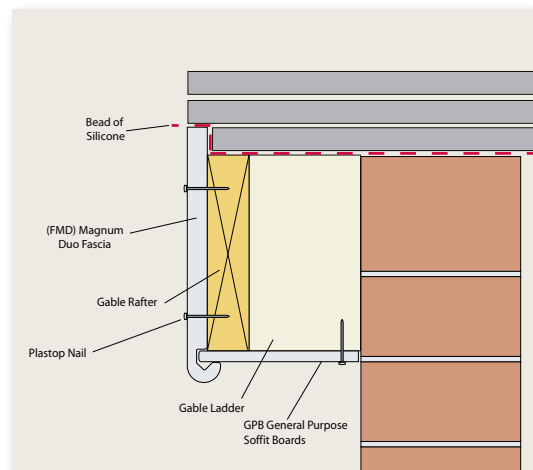

Fig. 21 Magnum Duo fascia with gable ladder and general purpose soffit.
**Figure 21** shows an oversailing verge, with a gable ladder providing the necessary fixing. GPB General Purpose Board soffit is used and is supported at the outer edge by a Magnum board and at the inner edge by treated battens fixed to the gable wall between the gable ladder noggings. Battens should be fixed to the wall between the noggings if the distance between the gable ladder noggings is more than 600mm for white profiles or 400mm for coloured/woodgrain profiles or 300mm for black profiles.